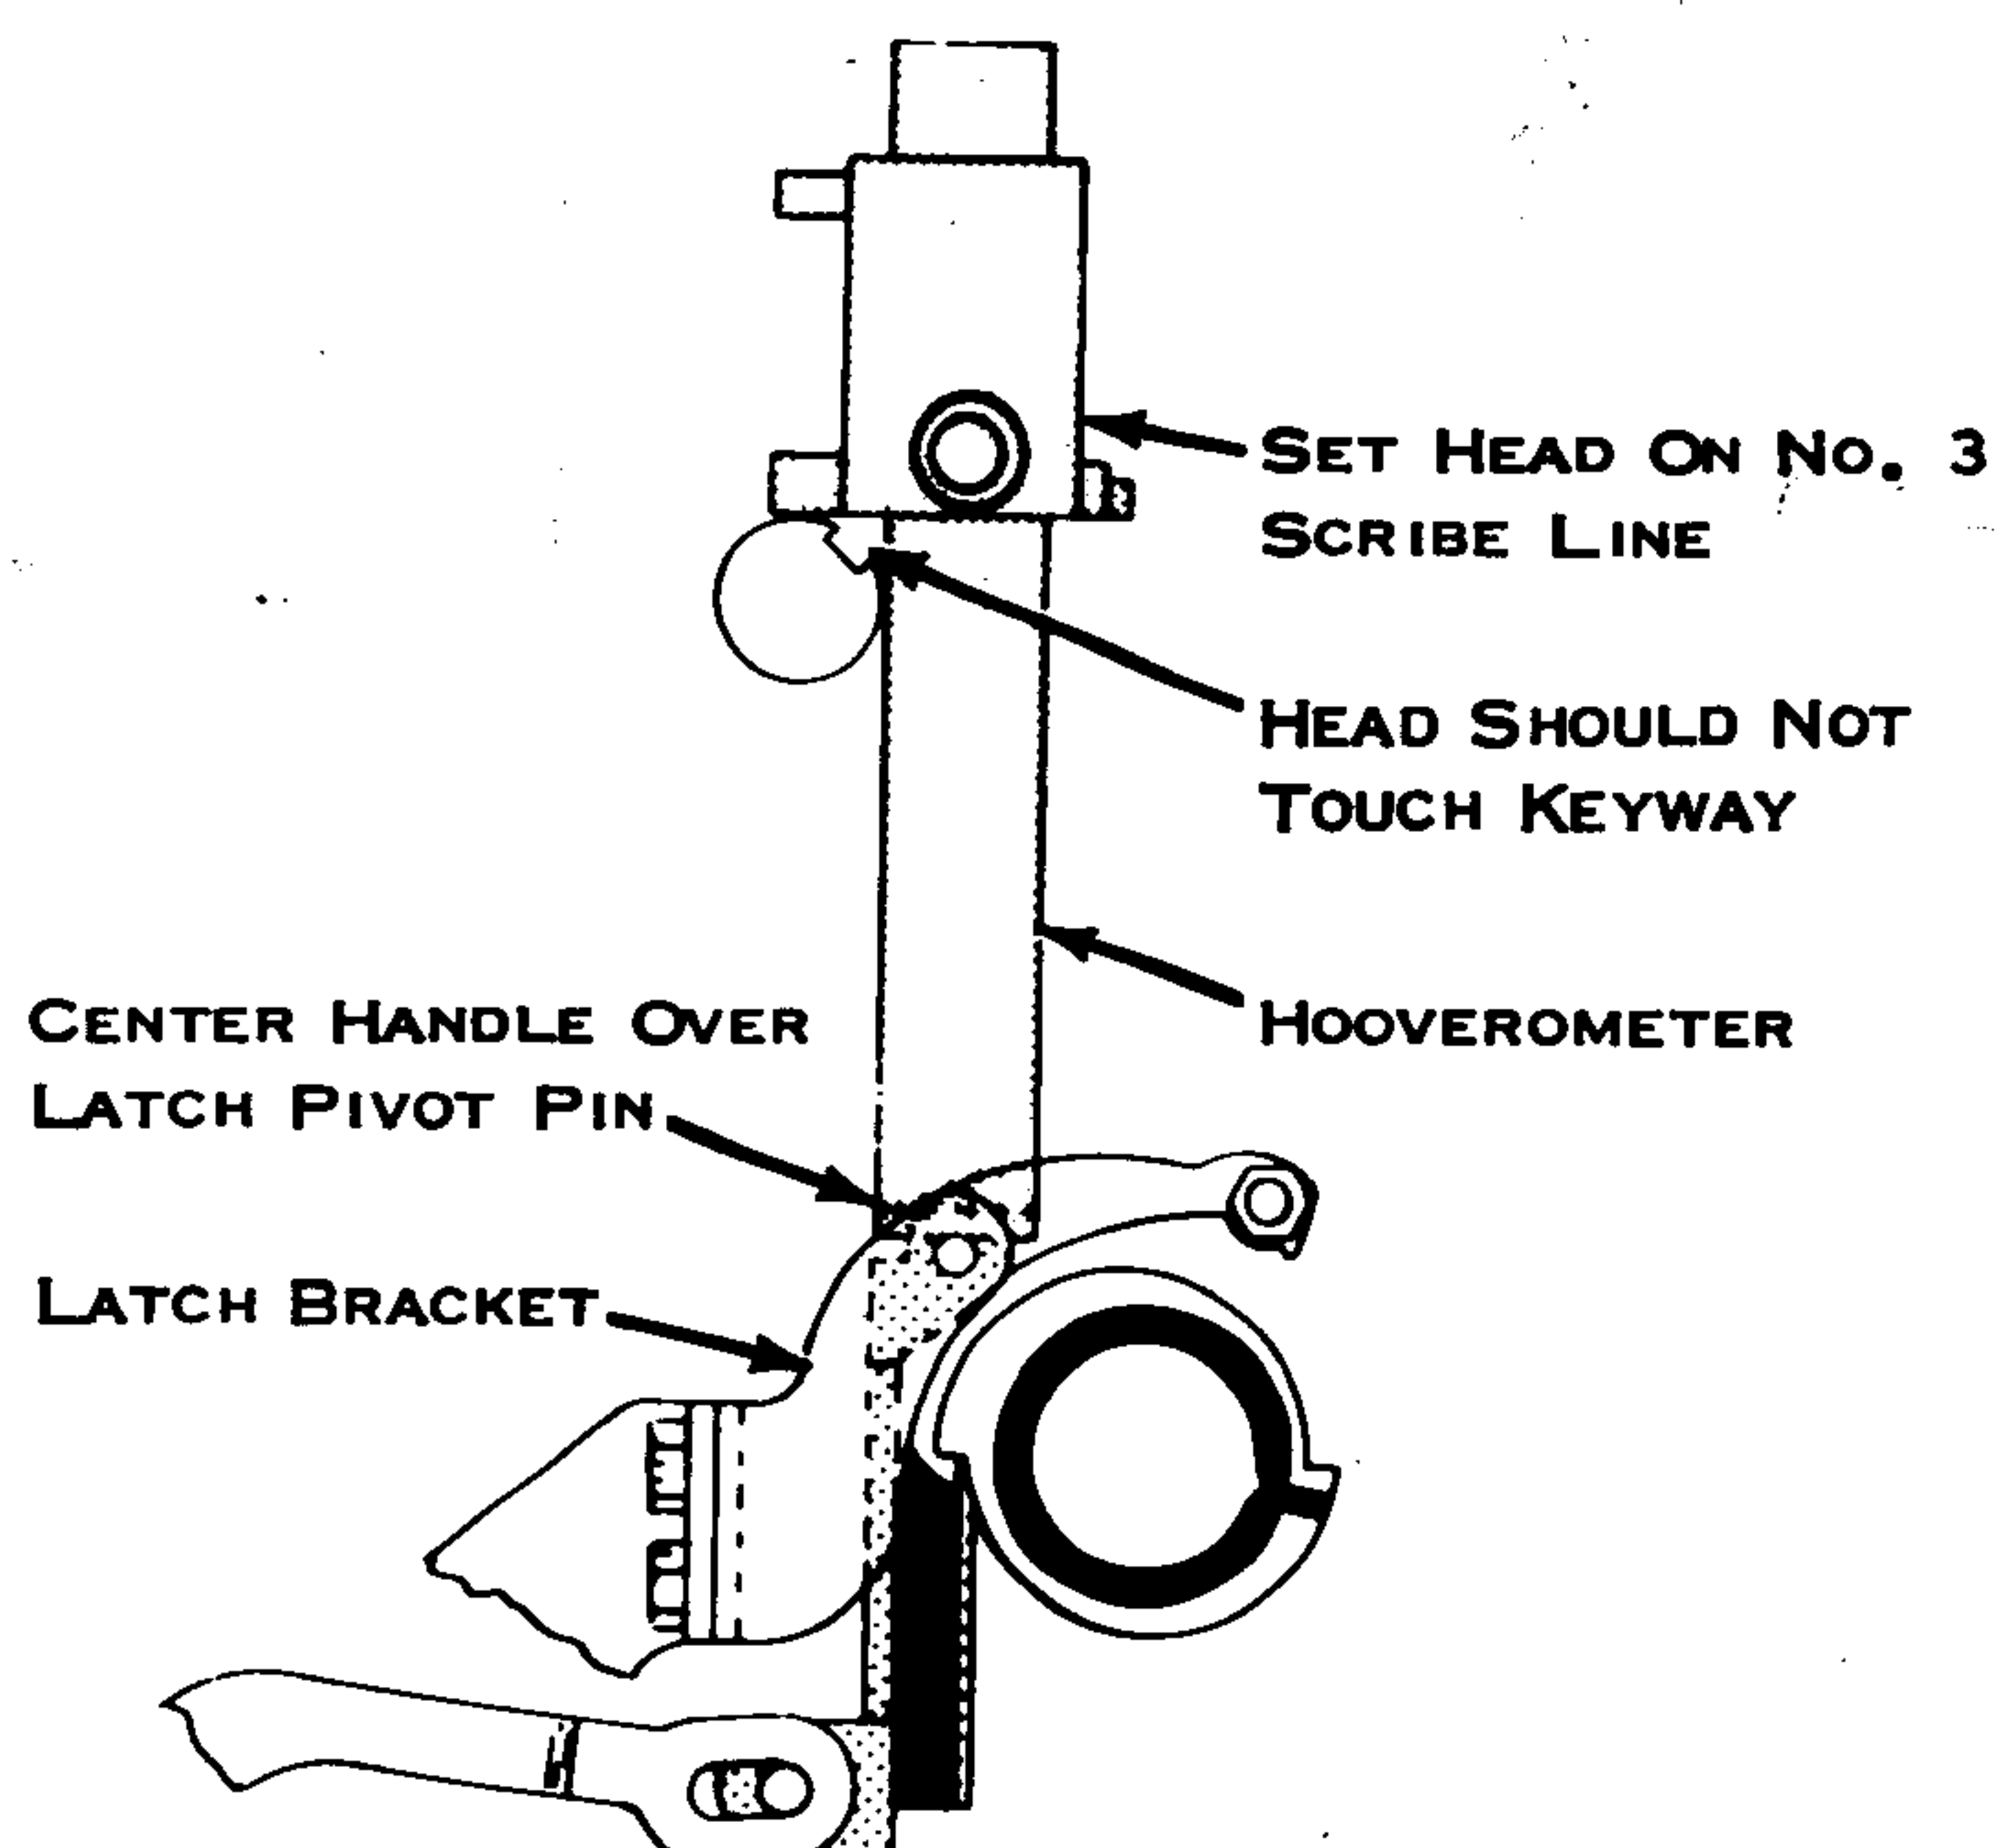

Figure 2. Cycle Clutch Latch Bracket
2. Cycle Clutch Latch Bracket (Fig. 2) - Position vertically so that the Hoovermeter spans the distance between the print shaft and the latch pivot pin. The Hoovermeter head must be set on the #3 scribe line with the handle centered on the latch pivot pin.